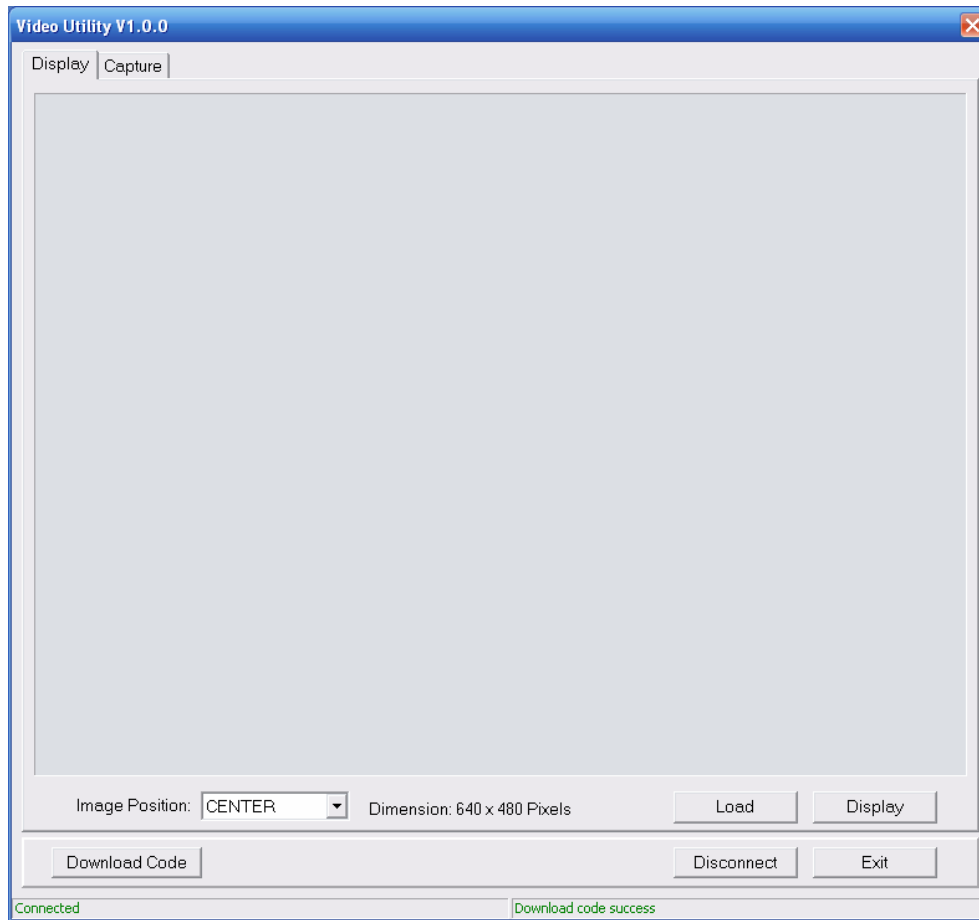

Figure 4.1. The DE2-70 Video Utility window.
4. Start the executable *DE2_70_AV_UTILITY.exe* on the host computer. The Video Utility user interface shown in Figure 4.1 will appear.